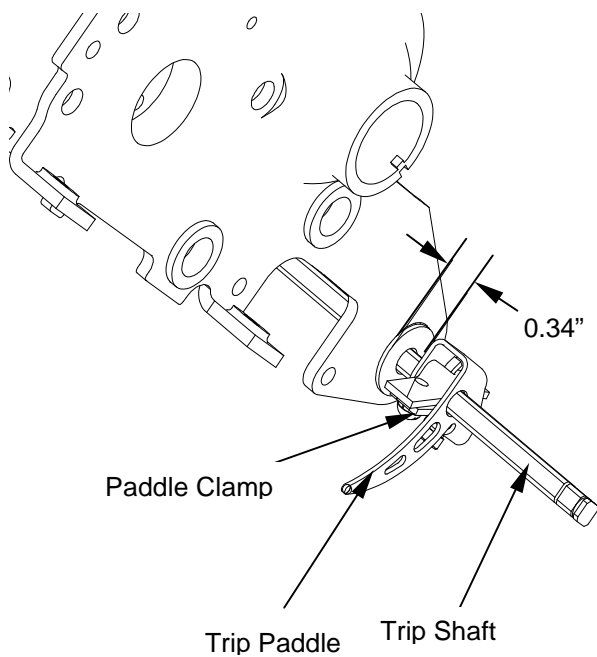

Figure 4. Mounting the trip paddle assembly on the trip shaft.
5. Assemble the trip paddle and paddle clamp over the circuit breaker trip shaft as shown in Figure 4. Secure the paddle clamp to the shaft using the #10-32 screw and spring washer provided.